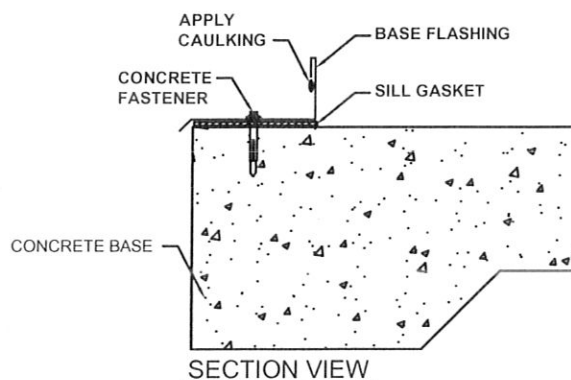
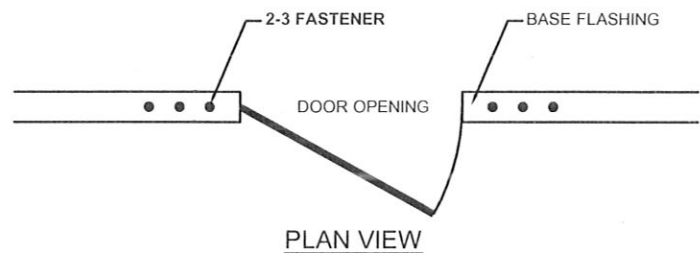

FIGURE 3
FIGURE 4
- 5.0 Install base flashing with sill gasket (fig. 3), making sure to place 2-3 fasteners at all door openings (fig.4)